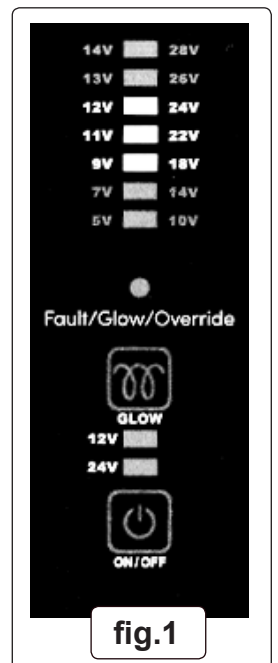

fig.1
#### Energising Indicator (EI) (fig.1):